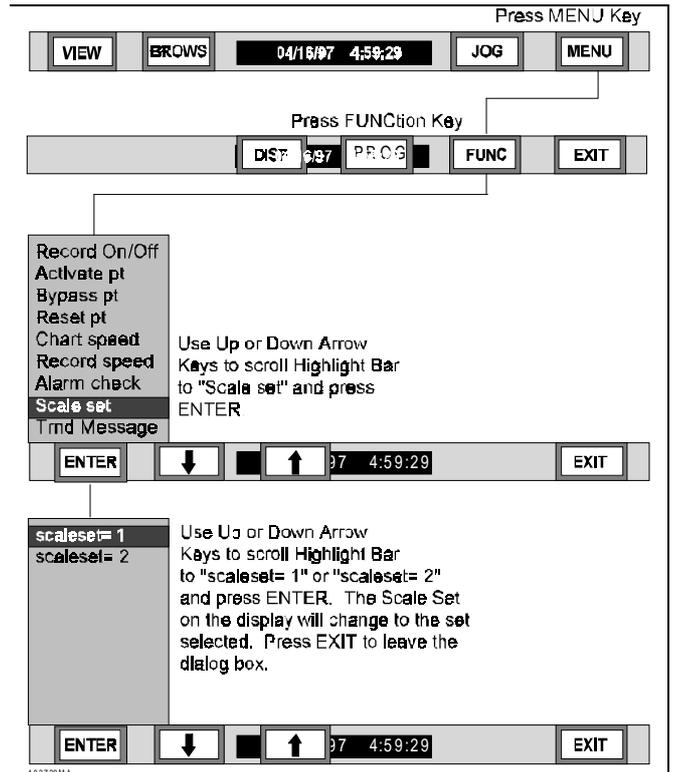

Figure 3-39 Select Scale Set Flow Chart
H. Scale Set - This menu item is used to select the active Scale Set, Scale Set 1 or 2. To select a Scale Set, use the instructions below and Figure 3-39: